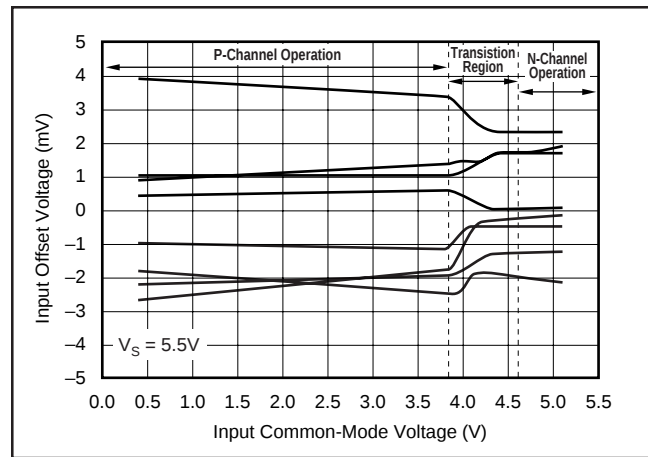
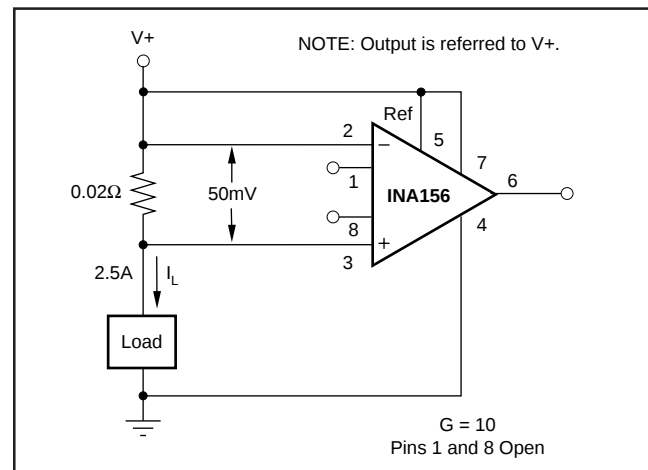

FIGURE 6. Input Offset Voltage Changes with Common-Mode Voltage.
FIGURE 7. Single-Supply, High-Side Current Monitor.
NOTES: (1) For further information, refer to typical performance curves on common-mode input range. (2) Operation beyond (V+) – 1.8V (max) results in reduced common-mode rejection. See discussion and Figure 6 in the text of this data sheet. (3) Does not include error and TCR of additional optional gain-setting resistor in series with R_{G1} if used.
The internal amplifiers have rail-to-rail input stages, achieved by using complementary n-channel and p-channel input pairs. The common-mode input voltage determines whether the p-channel or the n-channel input stage is operating. The transition between the input stages is gradual and occurs between $(V+) - 1.8V$ to $(V+) - 1V$. Due to these characteristics, operating the INA156 with input voltages within the transition region of $(V+) - 1.8V$ to $(V+) - 0.8V$ results in a shift in input offset voltage, and reduced common-mode and power supply rejection performance. Typical patterns of the offset voltage change throughout the input common-mode range are illustrated in Figure 6. The INA156 can be operated below or above the transition region with excellent results. Figure 7 demonstrates the use of the INA156 in a single-supply, high-side current monitor. In this application, the INA156 is operated above the transition region.